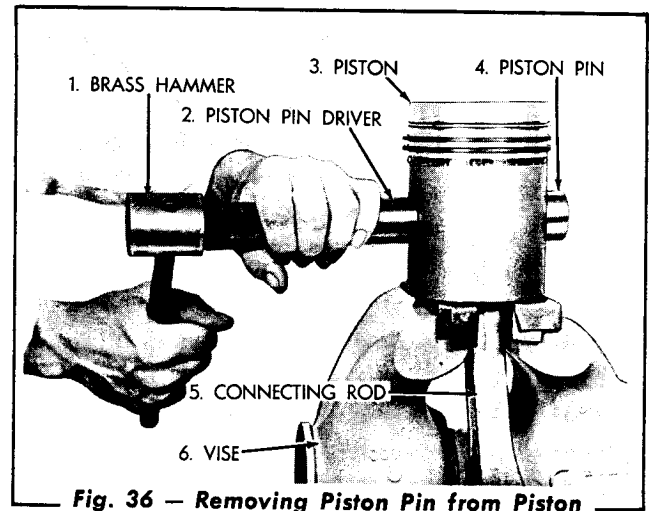

Fig. 36 — Removing Piston Pin from Piston
2. Using tools similar to those shown in Fig. 36, drive the piston pin from the piston. If a suitable driver tool is not available, immerse the piston in water (not oil) heated to 180° F. for approximately five minutes and remove the piston pin while the piston is still hot. *NOTE: The characteristic of an aluminum alloy piston is for the piston pin bore in the piston to expand as the piston heats, therefore, the piston pin is a tight fit in the piston when the piston is at room temperature.*
2. Insert the upper end of the connecting rod into the piston. Lubricate the piston pin with clean oil and with a driver tool similar to the one shown in Figure 36, drive the piston pin into the piston and the connecting rod. If a suitable driver tool is not available, immerse the piston in water heated to 180° F. for approximately five minutes, then insert the piston pin into the piston. **CAUTION:** Do not heat the piston in oil.